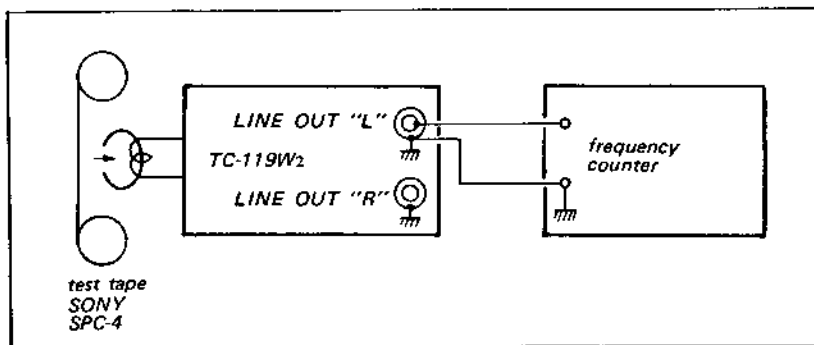

Fig. 4-1 Speed adjustment test setup
1. With the equipment connected as shown in Fig. 4-1, set the counter's gate control to 1 second.